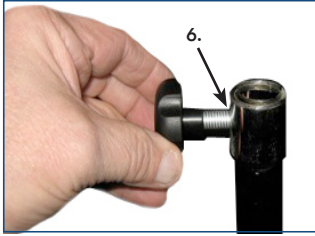

figure 6
6. Insert height adjustment knob into the threaded hole on the top of the lower post. (figure 6)